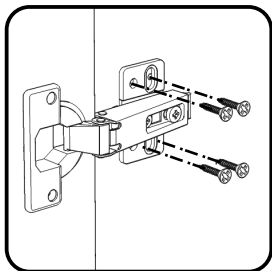

Figure 8
Attach Doors (V) to unit with Wood Screws for Hinge. (See Figure 8)